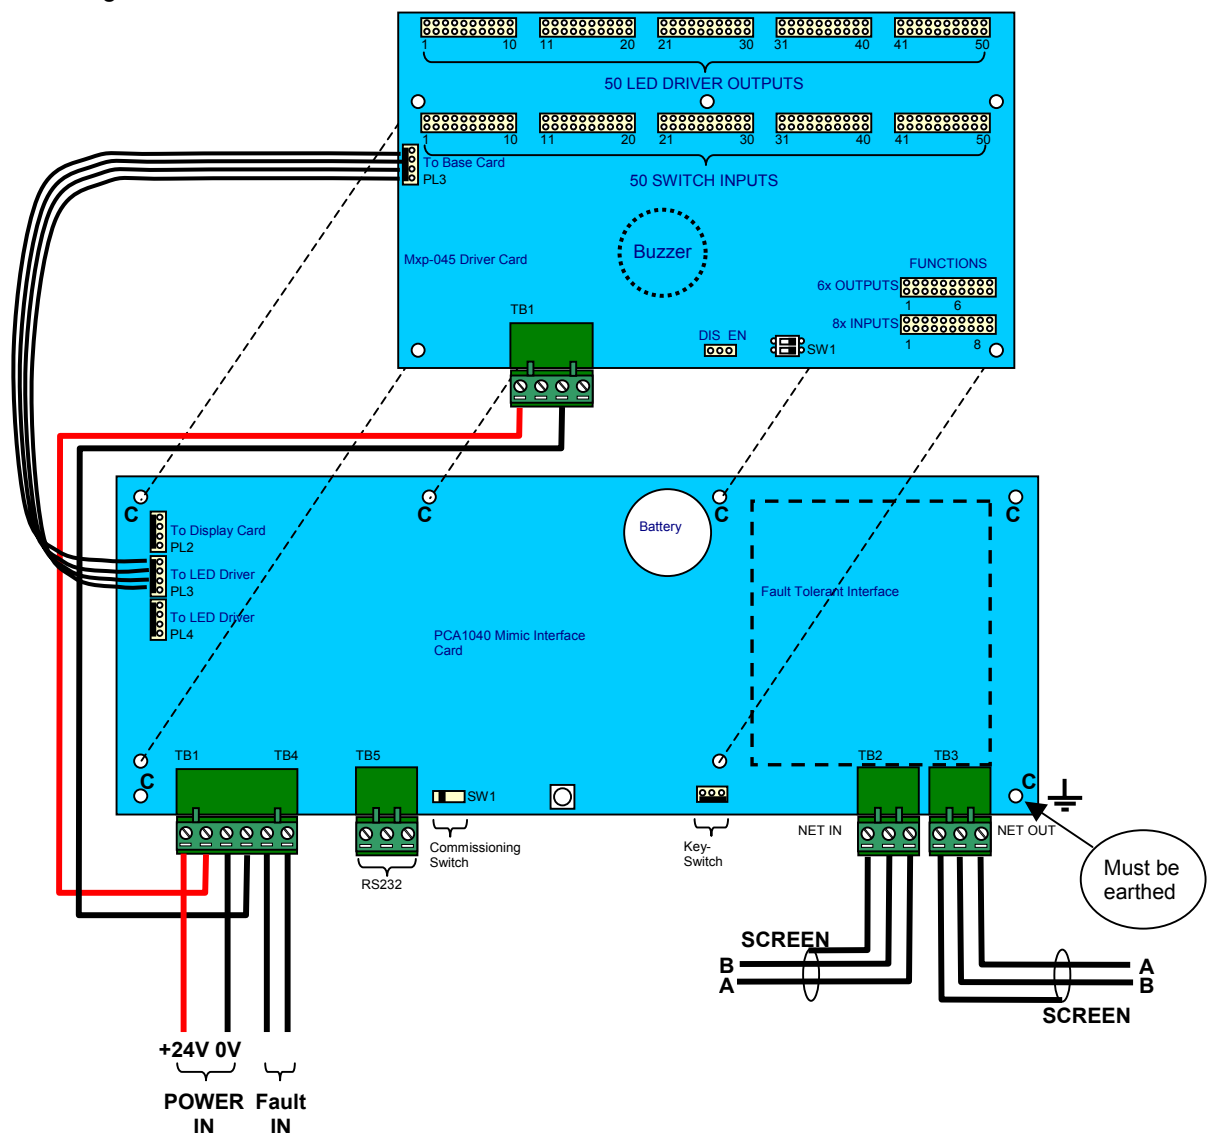

Figure 2 - Card Interconnections
The interface card, its internal connections to the driver card and its external connections are shown in Figure 2 below.
The card is provided with six (6) M3 fixing holes (marked C in Figure 2). Mount the card in a suitable enclosure using M3 spacers (minimum 10mm length). Note that the bottom right hand fixing point **MUST** be connected to the enclosure to provide a ground reference for the network connections.
Figure 2 above shows the positions for all connections to the unit.